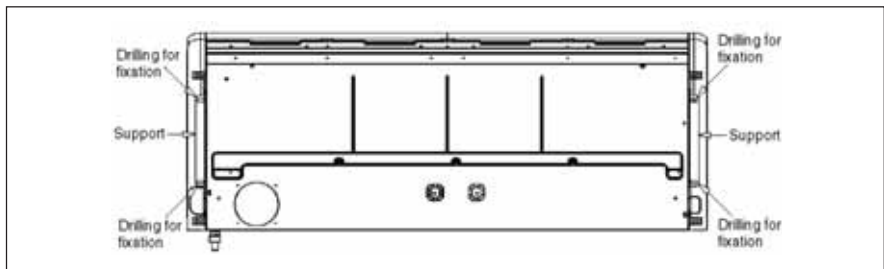

Fig. 8 - Supports and drilling for fixation
- c) The indoor unit comes factory supplied with (2) fixation support for installing it suspended from the ceiling or fixed to the adjacent wall (Fig. 8).
- d) Fig. 8 indicates the position of the supports. Install the fixation supports in the ceiling using assembly screws, nuts and washers.